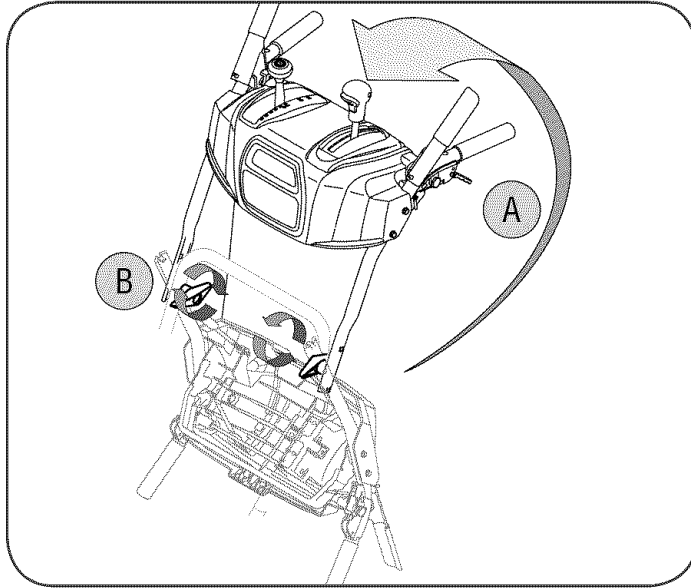

Figure 1
- a. Pull up on upper handle as shown in Figure 1. Align upper handle with the lower handle.